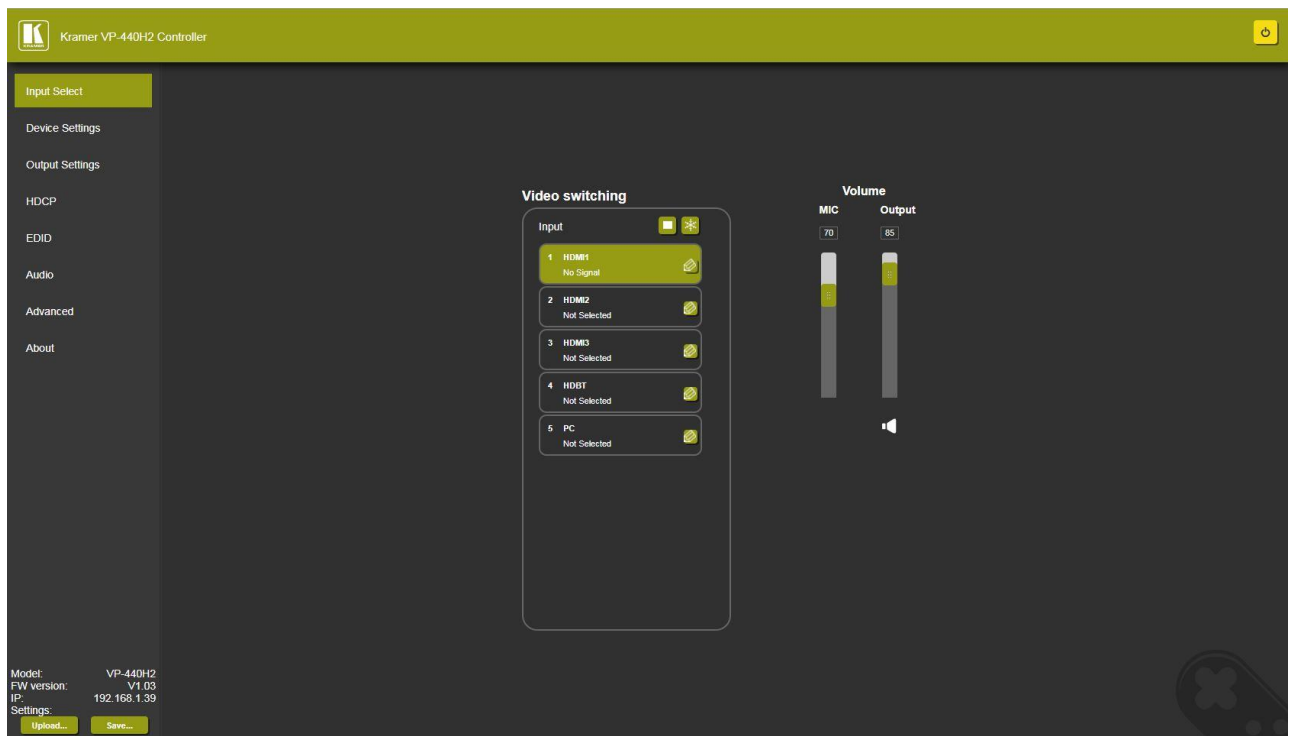

Figure 11: Controller Application Page with Navigation List on Left
1. Click **Input Select** on the left side of the web page (Figure 11).
1. Click **Device Settings** on the left side of the web page (Figure 11). The Device Settings page appears.
1. Click **Device Settings** on the left side of the web page (Figure 11).